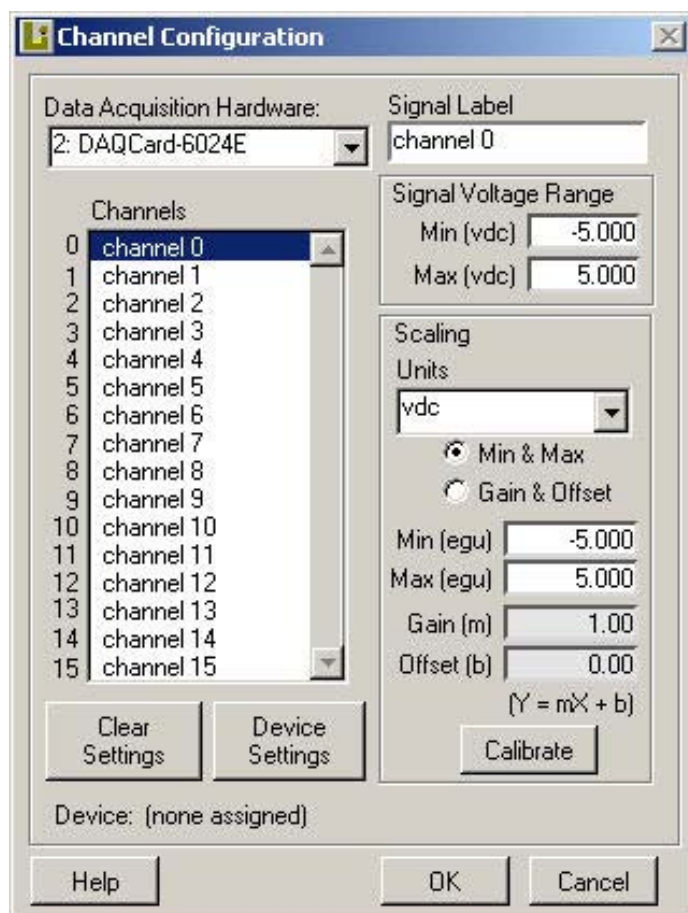

Figure B-2. Channel Configuration Dialog Box
- a. Select **Configure»Channels**. Figure B-2 shows the Channel Configuration dialog box that appears.